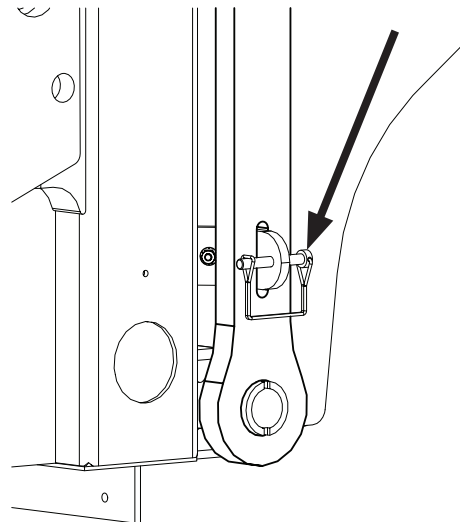

Figure 21
1. Disengage the pin securing the tailgate prop to the tailgate in the stored position on both sides of the tailgate (Figure 21).